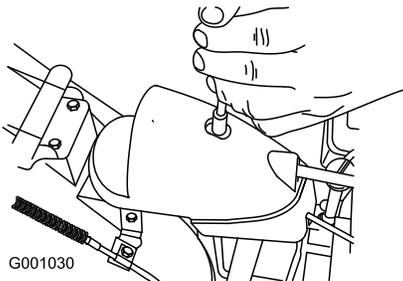

Figure 39
1. Remove the fastener on the gear cover (Figure 39), lift the front of the cover up, and slide it back and out of the way.